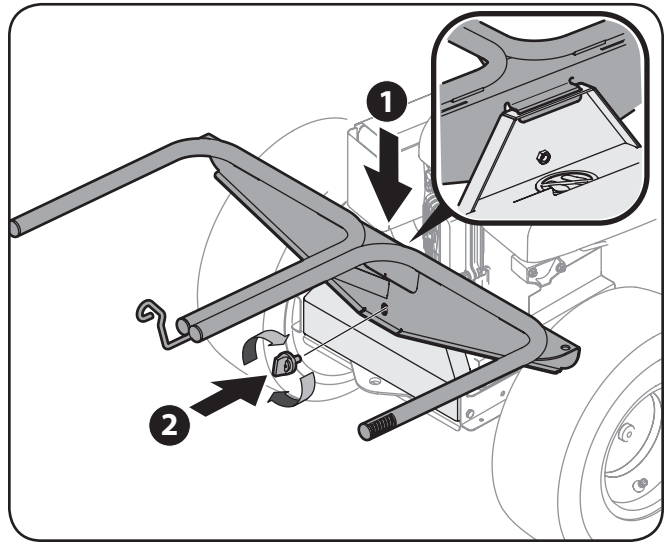

Figure 4-3
3. Install the grass-bag mounting assembly onto the bagger mounting bracket by lowering it down (1) and fitting the assembly into the slot provided in the mounting bracket. See the Inset in Figure 4-3.
4. Secure the grass-bag mounting assembly to the bagger mounting bracket using the attachment knob (720-04061) found in the hardware pack (683-05147). See (2) in Figure 4-3.